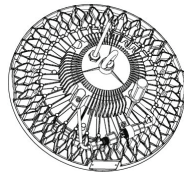

Figure 16
2. Screw off the I-type connector and remove the drive power output terminal wire from the I-type connector as shown in Figure 16.